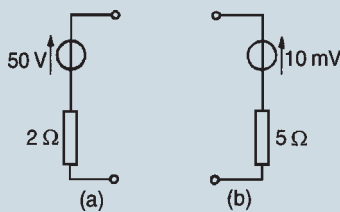

Figure 15.76
- Convert the circuits shown in Fig. 15.76 to Norton equivalent networks.